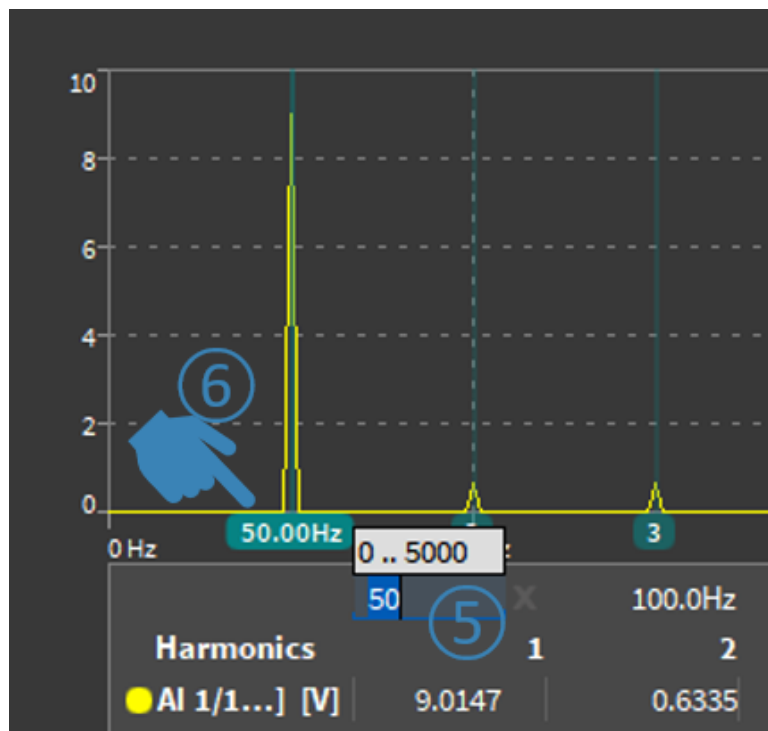

Fig. 8.50: Changing the 1st Harmonics cursor position
The cursor position can be changed by entering a new frequency for the first harmonic (see ⑤ in Fig. 8.50). It is also possible to move the first harmonic cursor with the left mouse button (see ⑥ in Fig. 8.50). The position of the higher harmonics is automatically adjusted.